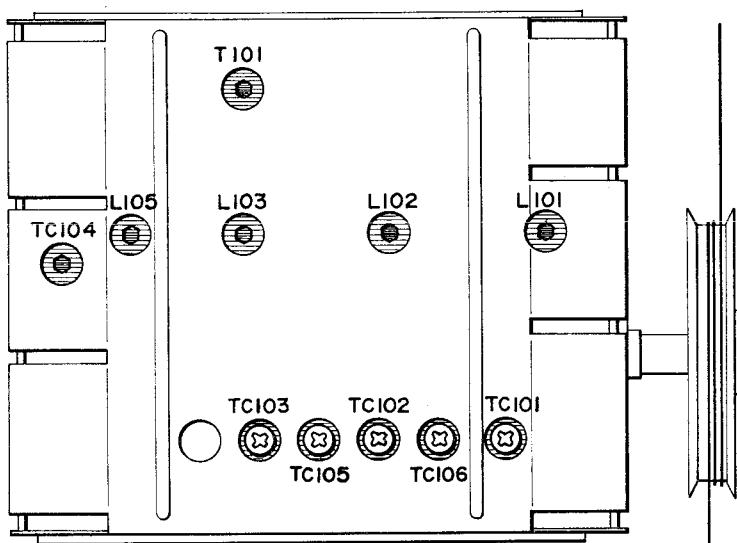

Fig. 10 FRONT END MODEL AA-8080, AA-8080L
- 4) Adjust the upper core of Front End (Figs. 10, 11) IF coil T101 to obtain maximum S curve amplitude, and adjust the lower core of coil T101 to obtain maximum noise level.
- 3) Set the receiver dial to 90 MHz and adjust the core of front end coil (coil marked “*1” in Chart 2 below) shown in Figs. 10 and 11 until the distortion meter level is maximum, and the distortion factor is minimum.
- 5) Set the receiver dial to 106 MHz, and adjust Front End trimmer condenser (*2 in Chart 2 below) shown in Figs. 10 and 11 until the distortion meter level is maximum and the distortion factor is minimum.
- 3) Set receiver dial to 90 MHz, and adjust front end coils (coil marked "*3" in Chart 3 below) shown in Figs. 10 and 11 until the distortion meter level is maximum, and the distortion factor is minimum.